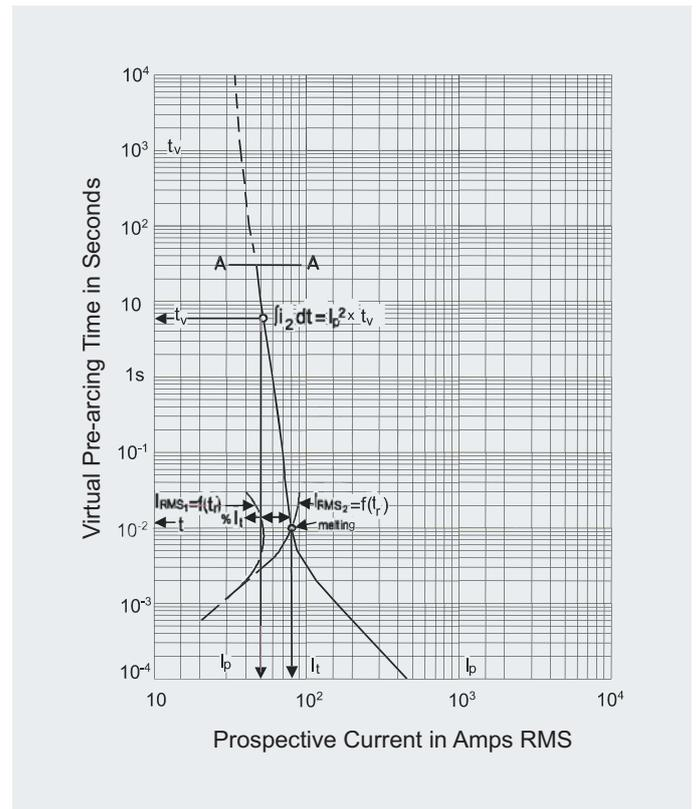

Figure 1
The time-current curve, also called the melting curve, enables the user to find vital information in the selection and dimensioning phase. See Fig.1.
- Plot the values as coordinates  $I_{RMS}, t_r$  onto the fuse time/current curve as shown in Fig. 1
- If the plotted curve crosses the fuse melting curve (like  $I_{RMS, 2}$  in the example shown in Fig. 1), the fuse melts to the time which can be found from the crossing point (real time).
If the plotted curve does not cross the fuse melting curve (like  $I_{RMS, 1}$  in the example shown in Fig. 1), the fuse will not open.